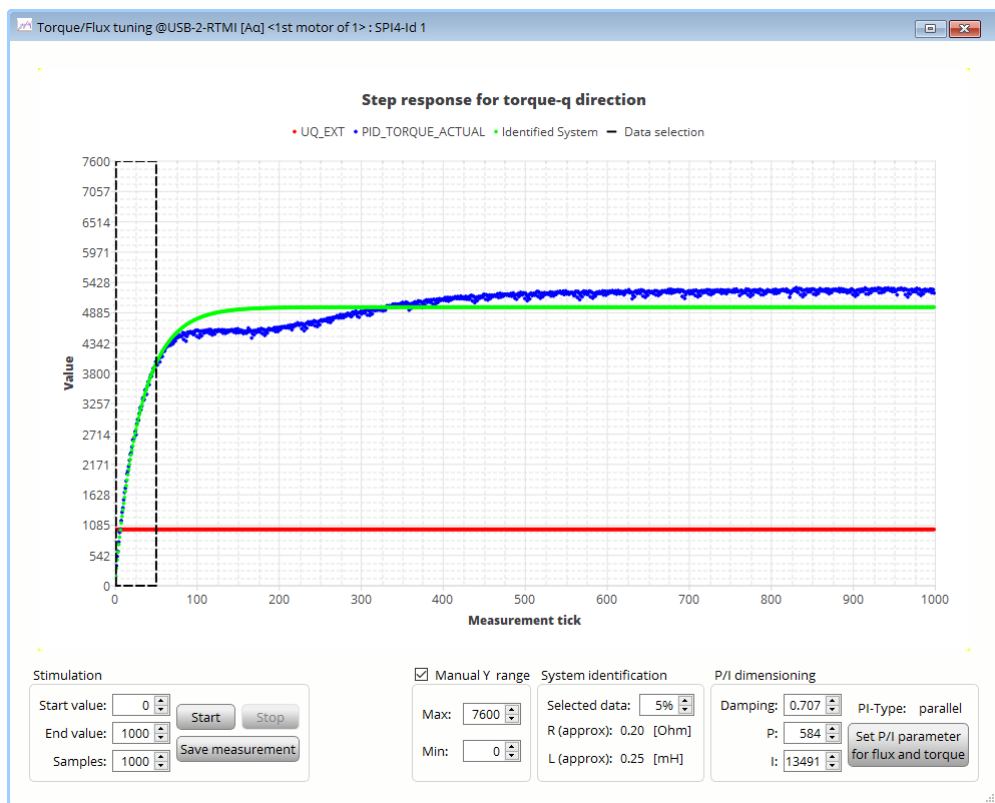

Figure 12: Step response: identification area too small
- In figure 12 the Identification area is too large